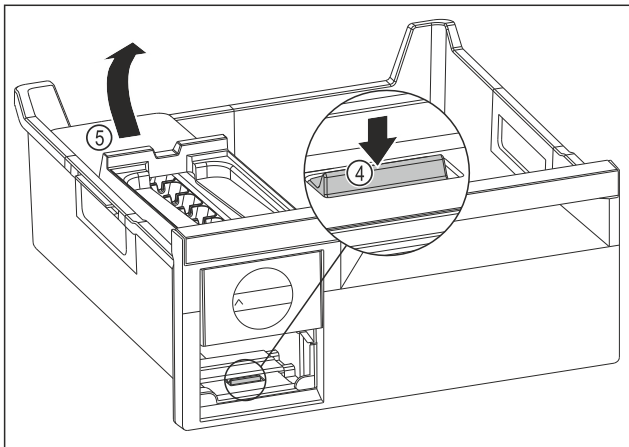

Fig. 141
- ▶ Removing the EasyTwist-Ice body: Use your finger to push the tab Fig. 141 (4) down and use your other hand to lift the EasyTwist-Ice body Fig. 141 (5) from behind at the same time.